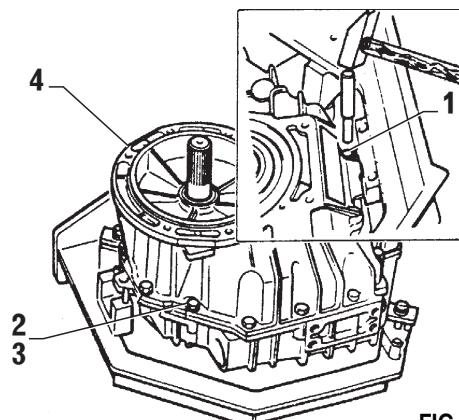

FIG. 5-7a
b) Using a adequate drift punch, drive the parallel pins (item 1, Fig. 5-7a) with slight blows out of the housing
c) Loosen hex bolts (item 2 and 3) with lockwashers (item 4, Fig. 5-7a) and remove input side of housing (item 5, Fig. 5-7a)